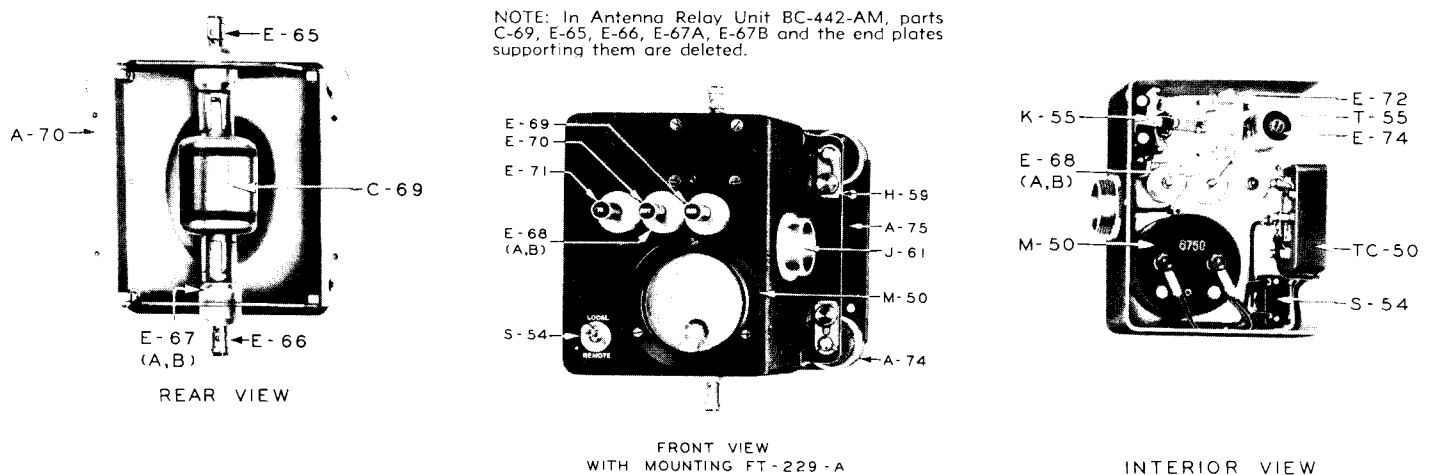

FIGURE 23 - ANTENNA RELAY UNIT BC-442-A, FRONT VIEW, AND REAR VIEWS
- (2) C-69 is a high voltage capacitor of 50 micromicrofarads capacity. This capacitor was formerly supplied with all Antenna Relays BC-442. Since this capacitor is not required in fighter aircraft installations, or with any of the radio transmitters except Radio Transmitter BC-459-A, these capacitors will be packed only with Radio Transmitter BC-459-A, instead of with Antenna Relays BC-442. Capacitor C-69 is to be installed in Antenna Relay BC-442 when Radio Transmitter BC-459-A is required. (See fig. 23.)